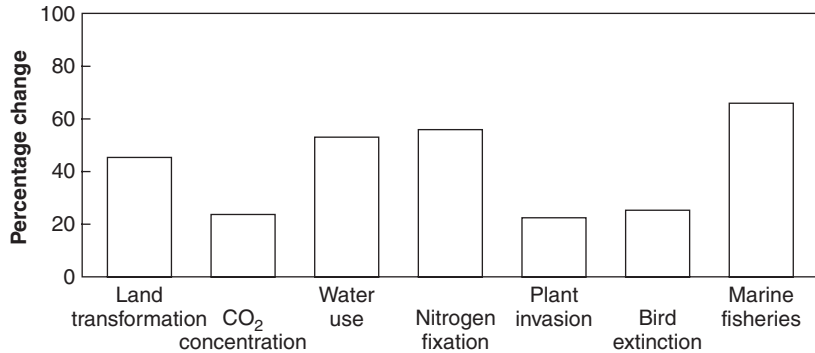

Figure 1.1
A 1997 article in the journal, *Science*, “Human domination of Earth’s ecosystems”, spoke of humanity’s impact on the environment.1 See **Figure 1.1** from left to right. (1) Up to one half of Earth’s land surface has been transformed by human action. (2) The percentage of the concentration of the atmospheric greenhouse gas, carbon dioxide, that results from human action. (3) The percentage of accessible surface fresh water on Earth being put to use by humanity. (4) The percentage of nitrogen fixation caused by humans is more than all natural terrestrial sources combined. (5) The percentage of plant species in Canada that humanity has introduced from elsewhere, i.e., invasive or exotic species. (6) The percentage of bird species on Earth that became extinct in the past two millennia (largely) from human activity. (7) The percentage of major marine fisheries that are fully exploited, overexploited, or depleted.